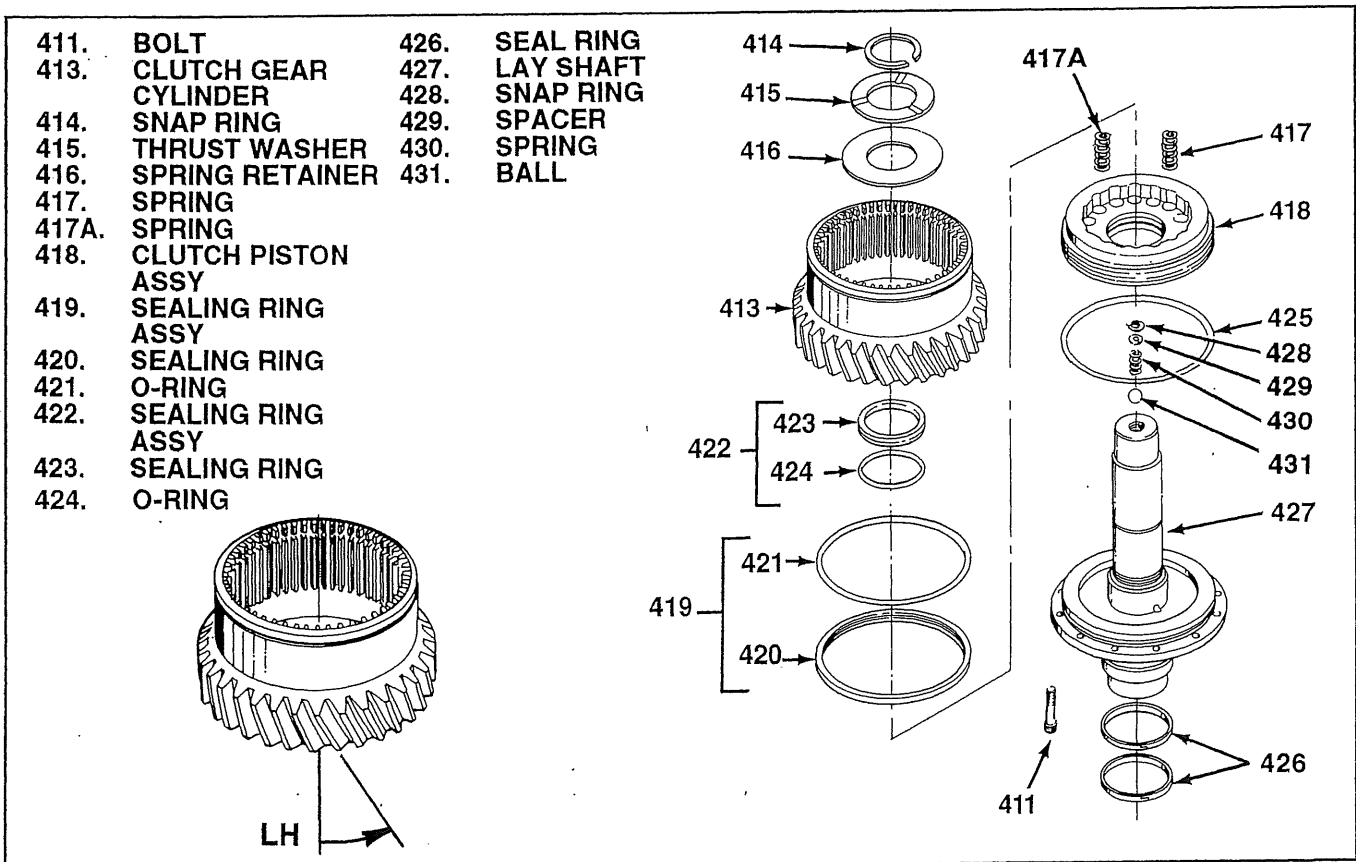

Figure 5-1. Lay Clutch Cylinder and Piston
**5-5. ASSEMBLY OF CLUTCH PISTON AND CYLINDER** Assemble lay clutch piston and cylinder as follows (see figure 5-1):
1. Install ball (431), spring (430) and spacer (429) into end of lay shaft (427). Use a suitable drift to press on spacer and compress spring while installing snap ring (428).
2. Install seal rings (426) and o-ring (425) in grooves in lay shaft (427).
3. Install sealing ring assembly (422), consisting of o-ring (424) and sealing ring (423), in groove in ID of clutch piston assembly (418). Install sealing ring assembly (419), consisting of o-ring (421) and sealing ring (420) in groove in OD of clutch piston.
9. The helical on the lay clutch gear must be left handed. That means the teeth must be inclined to the left when viewed from the face of the gear (see figure 5-1). If the incorrect helical (input clutch) gear is installed there may be resulting damage to the lay shaft pump side bearing.
10. Using Guide pins, install clutch gear cylinder (413) over clutch piston assembly (418) and onto lay shaft (427). Install twelve bolts (411). Torque bolts to 16-18 lb-ft (22-25 Nm).